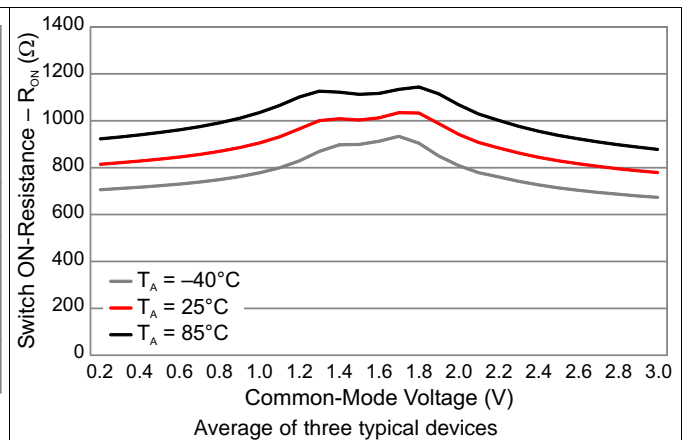

Figure 5-29. OA Switch R_{ON} vs Common-Mode Voltage
- (1) This leakage includes all leakage seen at the device pin, not only leakage caused by the switch itself. It assumes a total of five switches present and a shared digital I/O.
(2) The resistance varies with input voltage range. This resistance represents the peak resistance at the worst case input range (see Figure 5-29).